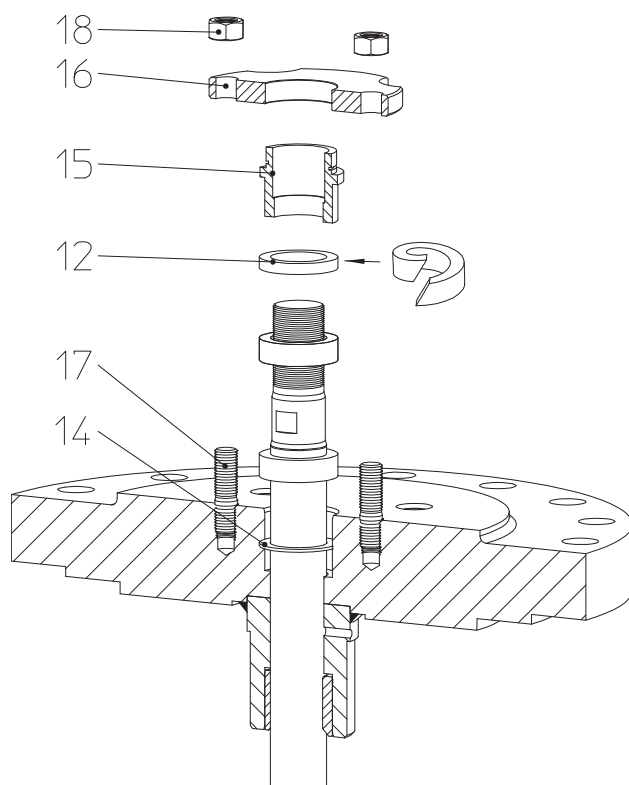
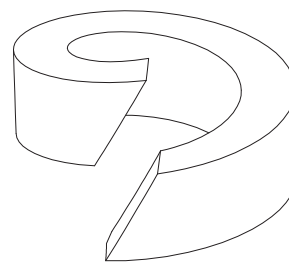

Fig. 8
Fig. 9: Split packing ring
**Refer to item 10.0 and 11.0 before dismantling the valve.**
- Insert the new packing ring as shown in Fig. 8 - Fig. 9.
If a split packing ring is used, cut with a chamfer as shown in Fig. 9.